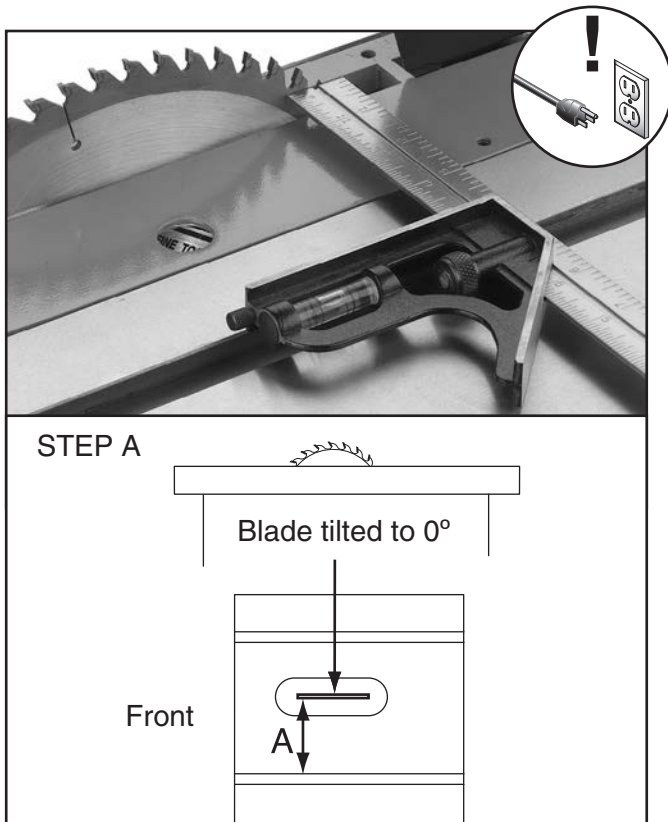

Figure 108. Example of adjusting blade to miter slot.
2. Tilt blade to 0°, then use an adjustable square to measure distance from miter slot to a carbide tip on blade, as shown in **Figure 108**. Make sure that face of adjustable square is even along miter slot.